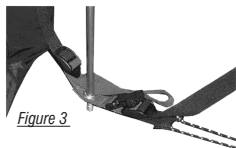

Figure 3
- Locate the ends of the diagonal poles into the eyelets on pole anchor strap on one side of the groundsheet (Figure 3).
- Peg the inner tent through the cord loops located at each pole anchor using the alloy pin pegs (Figure 3).
- Adjust the groundsheet tension using adjuster straps (Figure 3).